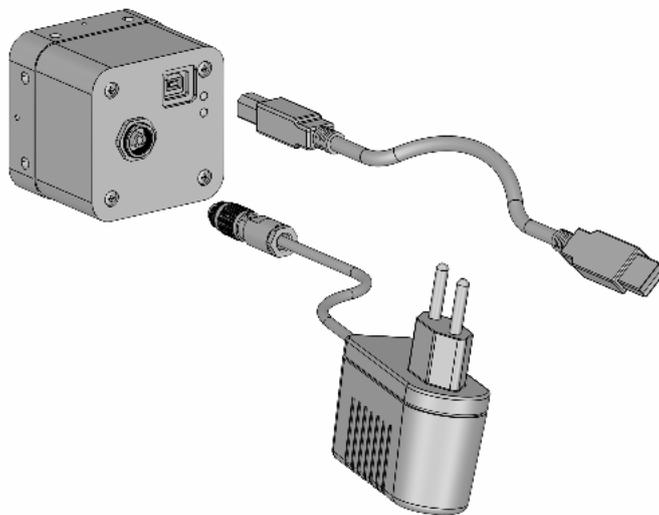

Figure 2.6: Camera with power supply and USB 2.0 cable.
4. Connect the camera to a USB 2.0 port at the PC with a suitable USB 2.0 cable (see Fig. 2.6).